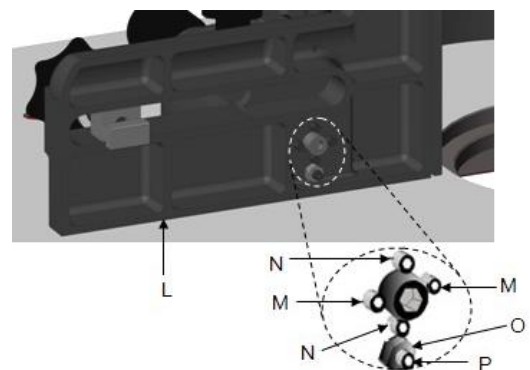
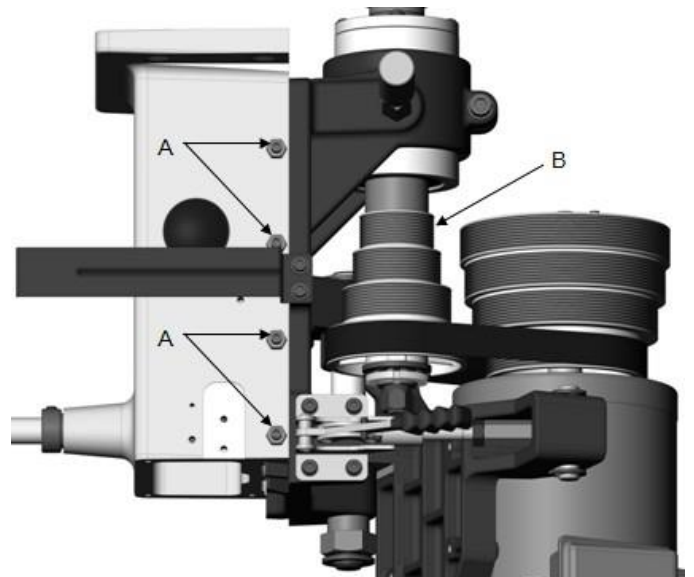

Fig. 10
Fig. 12
6. Remove both fences (J1, J2) and place the straightedge against the infeed and outfeed fence castings (Fig. 10).
7. Maintain steady pressure of the straightedge against the fence castings (K, Fig. 10). At the same time, attempt to bring both fences into alignment as shown in Fig. 11. This is accomplished by alternately making incremental adjustments to two setscrews (M, Fig. 12) on the front face of the casting (L, Fig. 12) with a 3mm hex wrench, followed by repositioning the casting with the ram adjust dial (Q, Fig. 12) as required.
Important: It is recommended that the adjustment setscrews (M, Fig. 12) be rotated in 1/16th increments or less at a time.
- Place a square against the casting (L, Fig. 10) and table.
- If adjustment is required, adjust setscrews N (Fig. 10).
- Using a 10mm wrench, loosen the lock nut (O, Fig.10) that secures the zero stop set-screw (P, Fig. 12) on the casting (L, Fig. 10).
- Loosen or tighten the setscrew (P, Fig.10), as required, to bring fence castings into alignment as shown in M.
- Tighten lock nut (O, Fig. 10).
The spindle housing gib on your machine is factory adjusted and initially should not require readjustment. After a period of use the gib may wear and become loose, introducing play and potentially causing the spindle (B) to vibrate. This requires adjustment (Fig. 12).